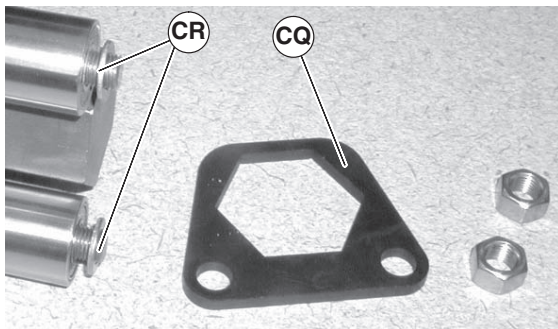

Figure 71
- Remove support plates (Figure 71, item CQ) and washers (CR).